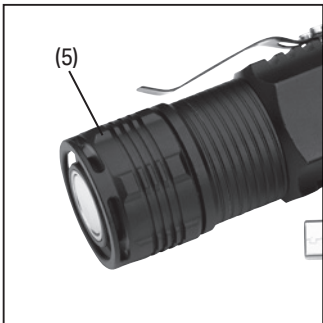

Fig. 2
5. Fitting the Battery – Fig.2